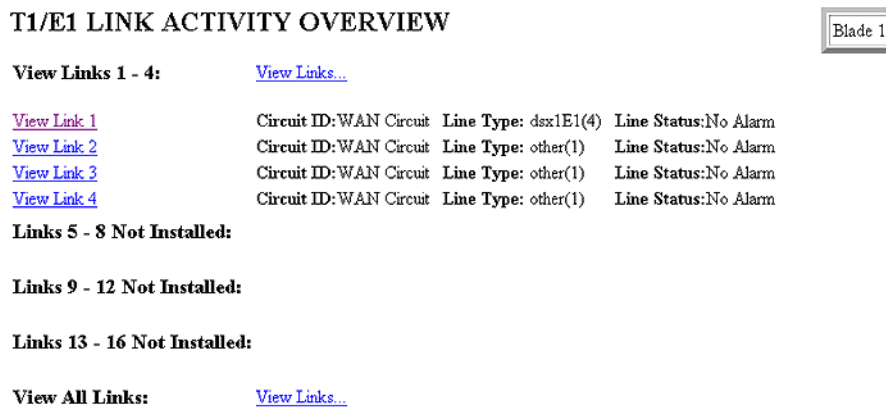

Figure 37. T1/E1 Link Activity Overview page
1. On the *3096RC Configuration Menu*, click the *T1/E1 Link* hyperlink to open the **T1/E1 LINK ACTIVITY OVERVIEW** page (see figure 37).